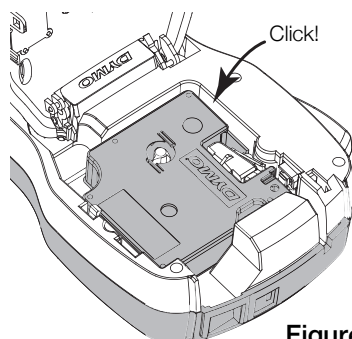

Figure 5
- 3 Insert the cassette and press firmly until cassette clicks into place. See Figure 5.